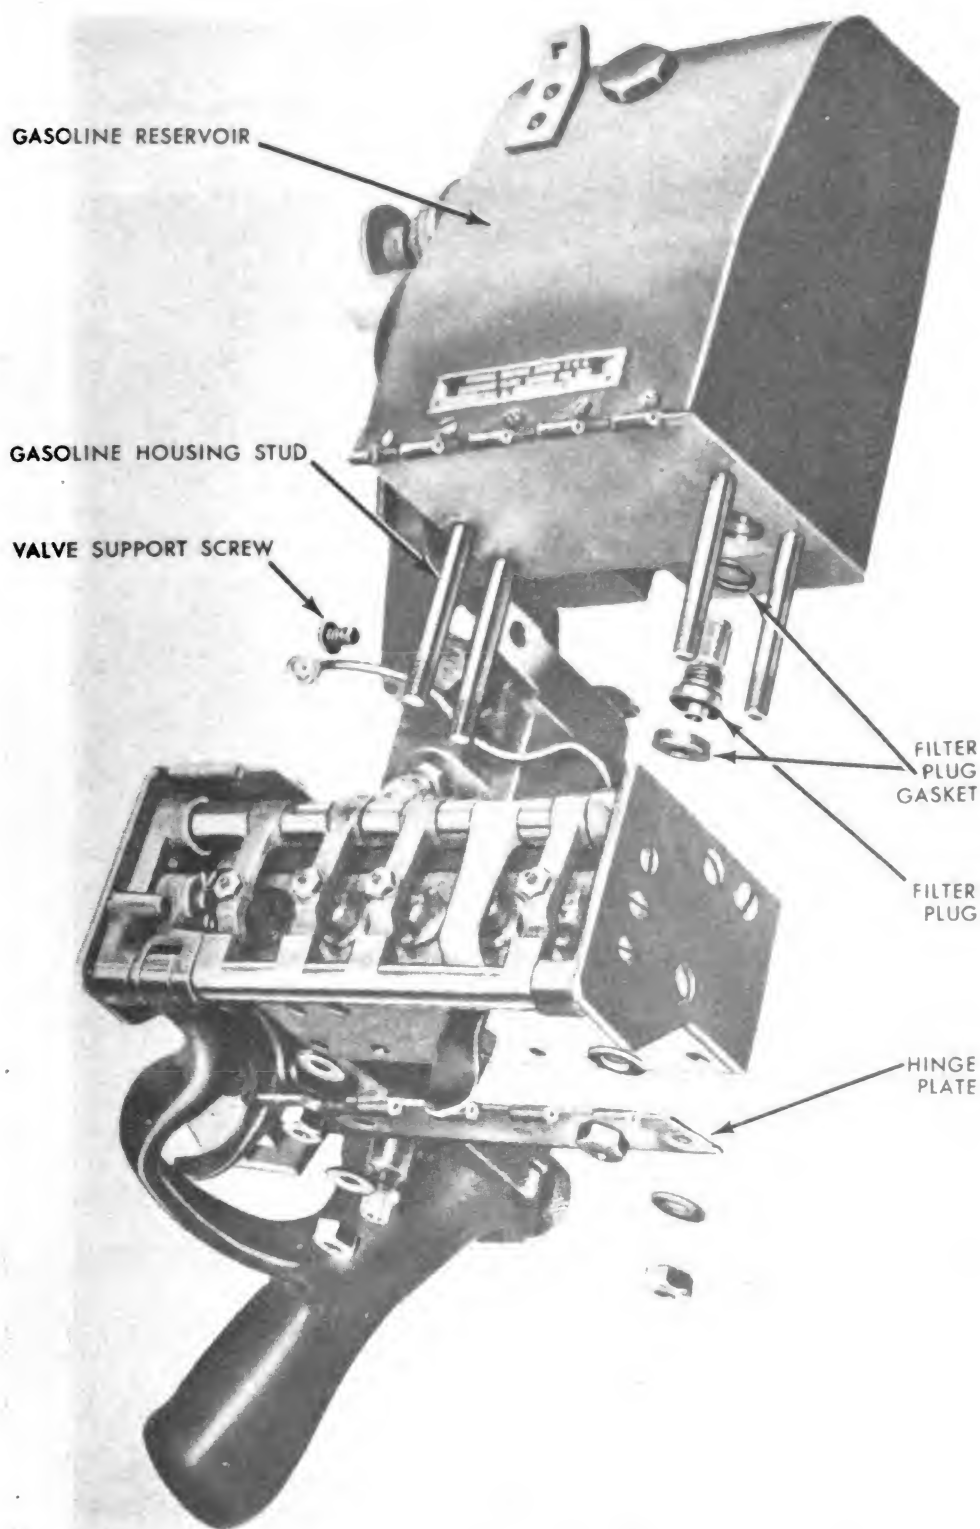

Fig. 85. Gasoline housing assembly separated from remainder of gun control assembly.
### 94. GASOLINE HOUSING ASSEMBLY (fig. 85).
(3) Pressure gage tube. This tube exits above the pump and connects to the pressure gage.
(4) Gasoline filter plug and filter (fig. 85). At the bottom of the gasoline housing assembly is the gasoline outlet into which the filter plug is screwed. The housing filter, which serves to remove foreign matter as gasoline passes from the reservoir, projects into the reservoir and is joined to the filter plug. A gasket assists in making a seal
(4) Remove the screw holding discharge valve housing to gasoline reservoir.
(5) Remove coil cap (par. 92b) and disconnect the three studs which hold the cap in place.
(6) Lift off gasoline reservoir (fig. 85). If the reservoir does not lift off easily, drive it off by means of a hammer, with a block of wood interposed between it and the gasoline reservoir.
d. Removal and replacement of pump. (1) To remove pump, unscrew it from the housing with a wrench. The entire pump assembly can now be removed.
(2) To replace the pump, reverse procedure for removal.
e. Removal and replacement of filter plug and filter (fig. 85). (1) To remove the filter plug and filter from the gasoline reservoir, remove housing assembly from control assembly, and unscrew plug from reservoir with the special spanner wrench.
(2) To replace filter plug and filter, reverse procedure given for removal. Make certain that the gasket is in place between the plug and the gasoline reservoir (fig. 85). Also be sure that the rubber gasket is in place between the plug and the seat on the distributor plate.
f. Maintenance. (1) Pump. Do not disassemble the pump. If it does not function properly, replace defective parts or entire pump.